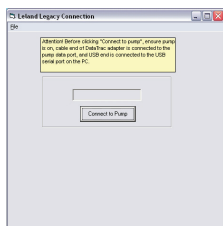

Figure 2. Connection Window
4. The Leland Legacy Connection window will display (Figure 2).
4. The Leland Legacy connection window will display (*Figure 2*).